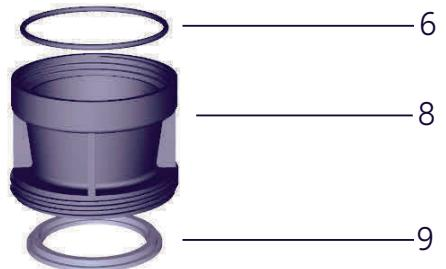

Fig. 8 Exploded view of RK 16/26 and RK 50 packing reservoirs.
Packing the column can be performed using either a packing reservoir (Fig 8) or an extra column tube, which is attached via a packing connector (Fig 7). Detailed procedure for column packing is described in the Instructions for each gel medium and also in the Gel Filtration Handbook Principles and Methods (Code 18-1022-18).
- 1 Remove the column adapter and replace it with the appropriate conical adapter (Fig 8). Make sure the column end piece is in the right place and the O-ring tightened.